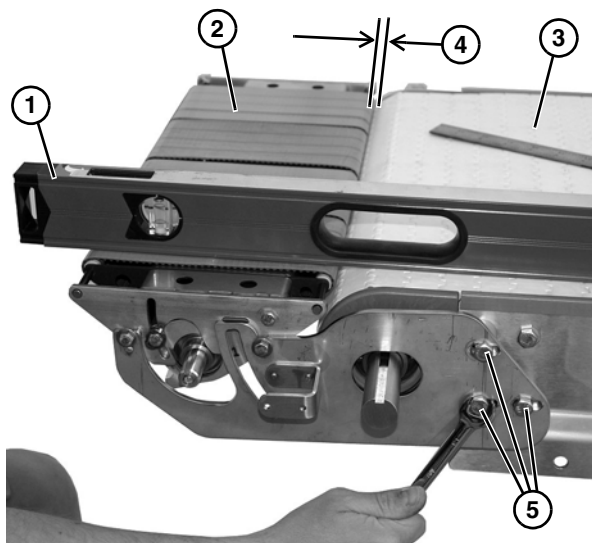

Figure 12
9. To adjust location, place level (**Figure 12, item 1**) or straight edge to level power transfer assembly (**Figure 12, item 2**) with conveyor belt (**Figure 12, item 3**). Be certain that there is a minimum 1/8 - 1/4 in. distance (**Figure 12, item 4**) between power transfer and conveyor belt, and tighten three bolts (**Figure 12, item 5**) to secure position.